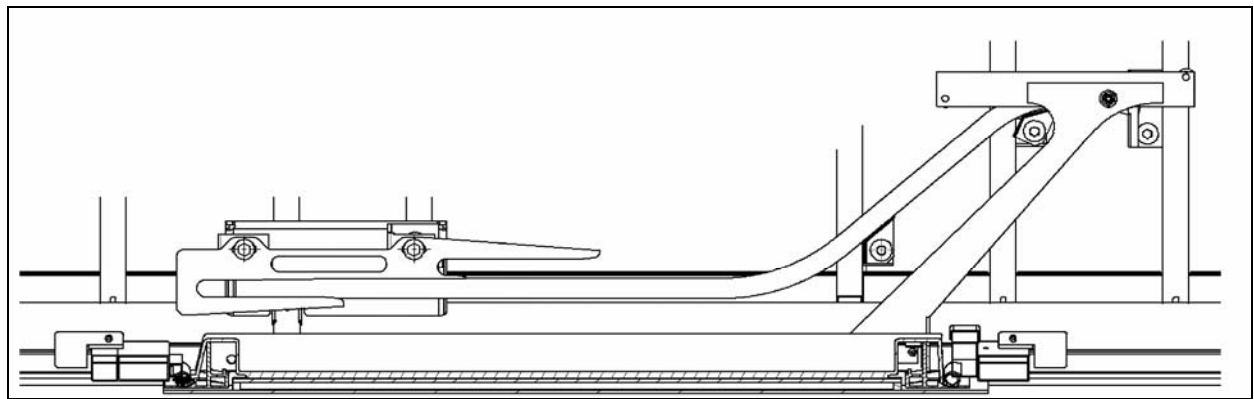

FIGURE 54: WCL UPPER ARM AND RAIL
2. Slide the top rail into the upper arm then bolt the rail to the structure. Do not fully tighten (Refer to fig. 54).